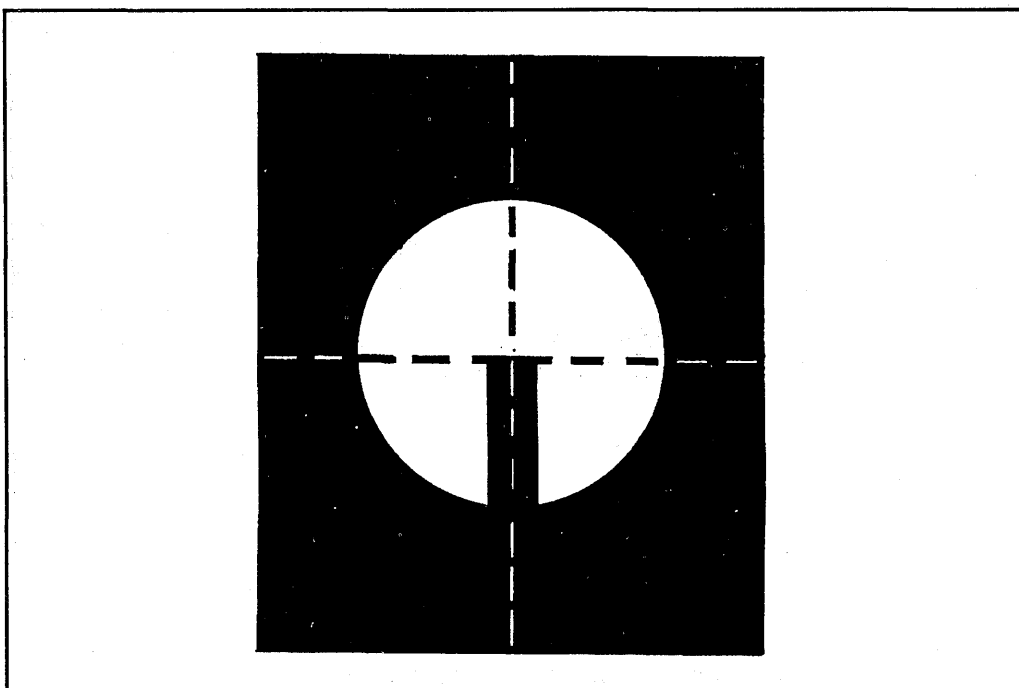

Figure 5-6. Correct sight alignment.
(1) The first step in proper sighting is finding a natural, comfortable spot where the gunner is able to see the front sight blade through the rear sight peep hole. It is important the gunner understands that the spot he chooses to sight from must be constant throughout his firing.
(2) The second step in sighting is to move the weapon until the top center of the front sight blade is exactly in the center of the rear sight peep hole. The gunner can achieve this by drawing imaginary lines that bisect in the center of the rear peephole and then placing the top of the front sight blade center of them. This is correct sight alignment (Figure 5-6).